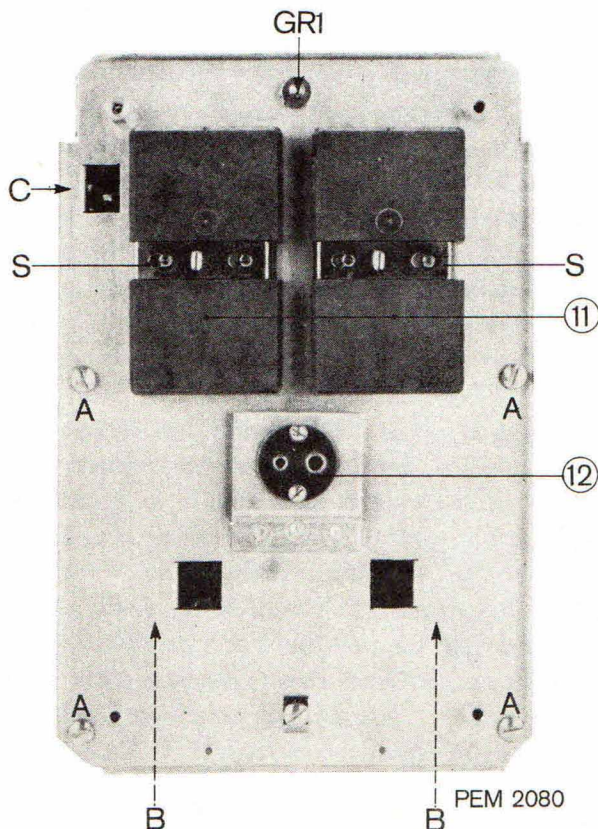

Fig. 5. Removing the rearmost mounting plate
2. Removing the rearmost mounting plate (Fig. 5)